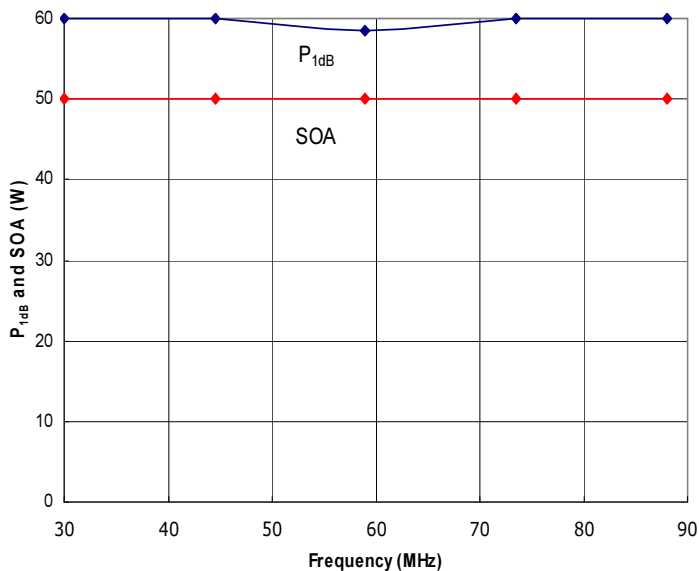

Figure 4: RFPS30-88-50 Typical P_{1dB} and Safe Operating Area (SOA).
- 5) Apply RF drive to achieve desired output level. Ensure that the Safe Operating Area (SOA) power level indicated in Figure 4 is not exceeded, or amplifier damage may occur, and will void the warranty.